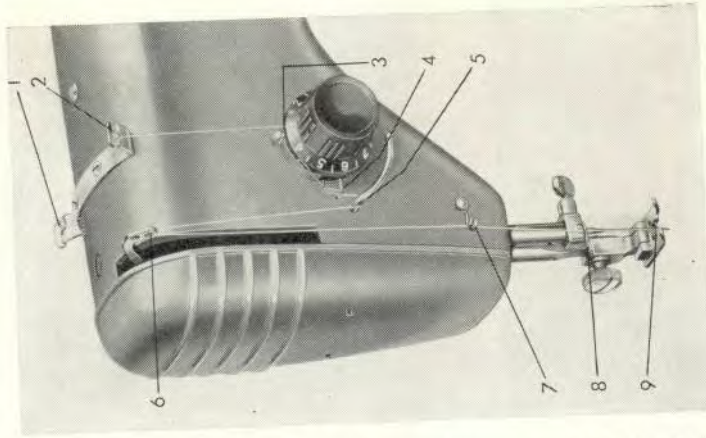

Fig. 12.
Bring the thread take-up lever (6, Fig. 12) to its highest position by turning the hand wheel towards you. Put a spool of thread on one of the spool pins (41 and 42, Fig. 2).
Pass thread through the thread guides (1 and 2, Fig. 12), then round from right to left between the innermost tension discs (3), over the croch of the thread take-up spring (4), under the slack thread regulator (5) and up through one of the eyes in the thread take-up lever (6). From the take-up lever take the thread down through thread guide (7) and thread guide on the needle clamp (8) and thread it through the needle from the front through the needle point, pulling out 3 or 4 inches behind.
The tension of the upper thread is regulated by the pressure of the tension discs (3, Fig. 12) against each other. This pressure is adjusted by means of a knob calibrated from 0 to 9 with 0 as lowest